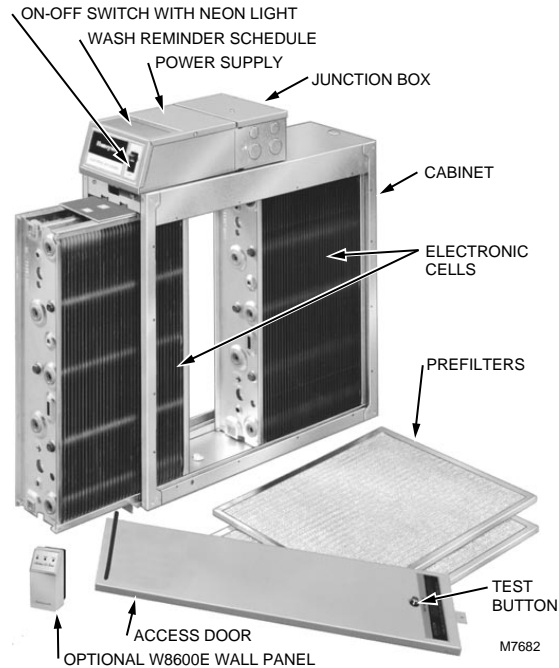

Fig. 14. Components of the F50E Air Cleaner (2-cell model shown).
- ❑ Check that all components are included. The electronic air cleaner is shipped assembled. See Fig. 14. The unit consists of: